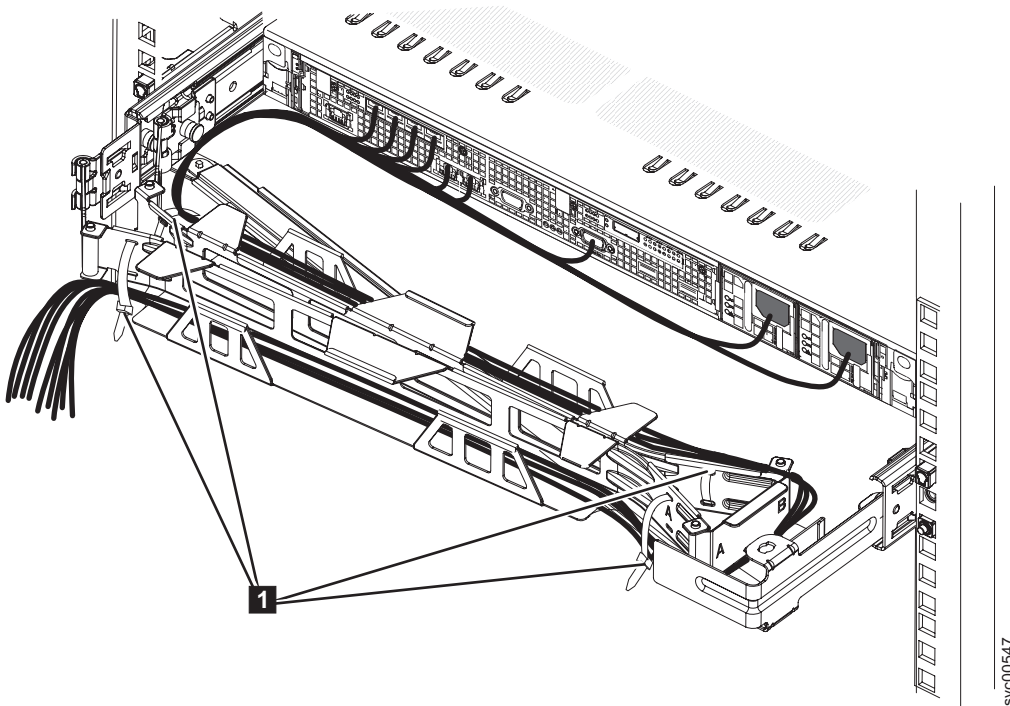

Figure 10. SAN Volume Controller 2145-CF8 cables in the cable-management arm
- b. Free the cables and power cords from the cable-management arm, as shown by **1** in Figure 10.